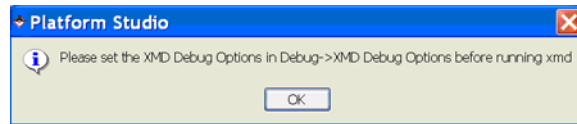

Figure 5-3: Reminder to Set XMD Options
4. If this is the first time XMD has been run, the dialog shown in Figure 5-3 appears.